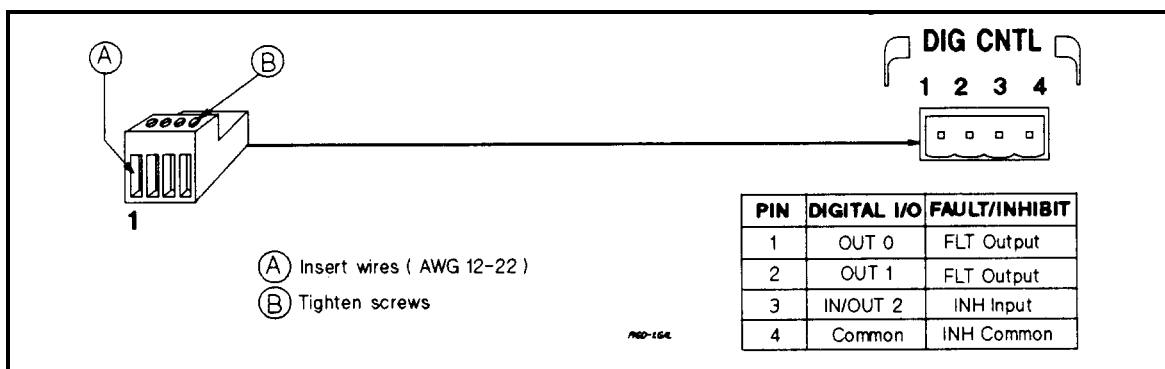
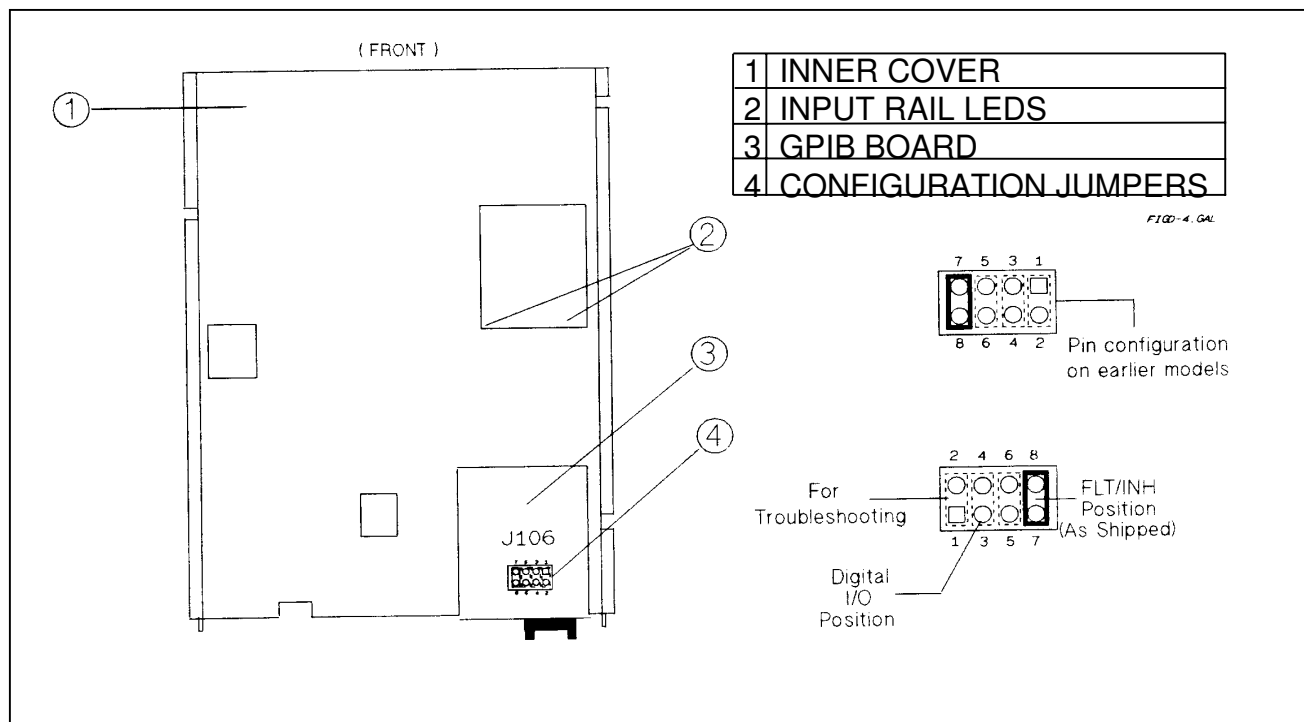
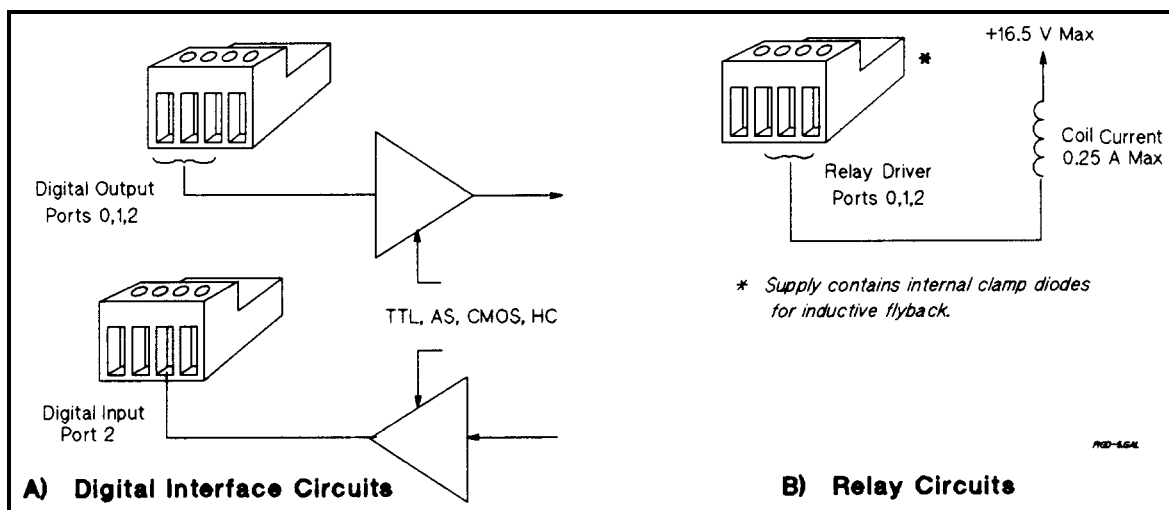

Figure C-1. Digital Port Connector
Figure C-4. Digital Port Configuration Jumper
Figure C-5. Digital I/O Port Applications
A 4-pin connector and a quick-disconnect mating plug are provided for digital input and output signals (see Figure C-1 for wiring connections and appendix A for electrical characteristics). This digital port can be configured to provide either Fault/Inhibit or Digital I/O functions.
As shipped from the factory, the digital port is configured for FLT/INH operation. You can change the configuration of the port to operate as a general-purpose digital input/output port to control your custom circuitry as shown in Figure C-4. To change the port configuration, you must move a jumper on the GPIB board.
5. Refer to Figure C-4 and use needle-nose pliers to move the jumper to the Digital I/O position.
The digital port can be configured (see Figure C-4) to provide a digital input/output to be used with custom digital interface circuits or relay circuits. Some examples are shown Figure C-5. See Figure C-1 for the pin assignments of the mating plug and appendix A for the electrical characteristics of the port. See DIG:DATA[:VAL] in chapter 7 - Language Dictionary for information on programming the port. The digital port pins are as follows: